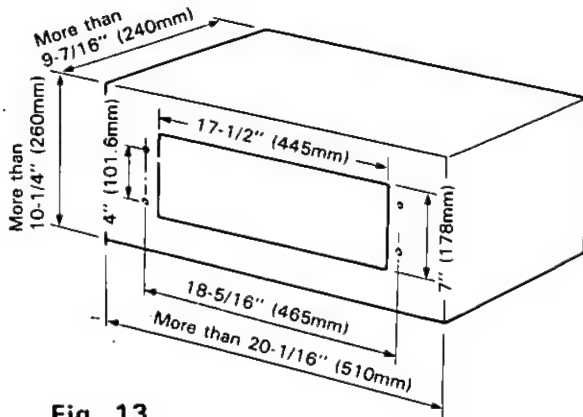

Fig 13.
- (1) A Flush mounting box must be acquired from an outside source. See Fig. 13 for dimensions.